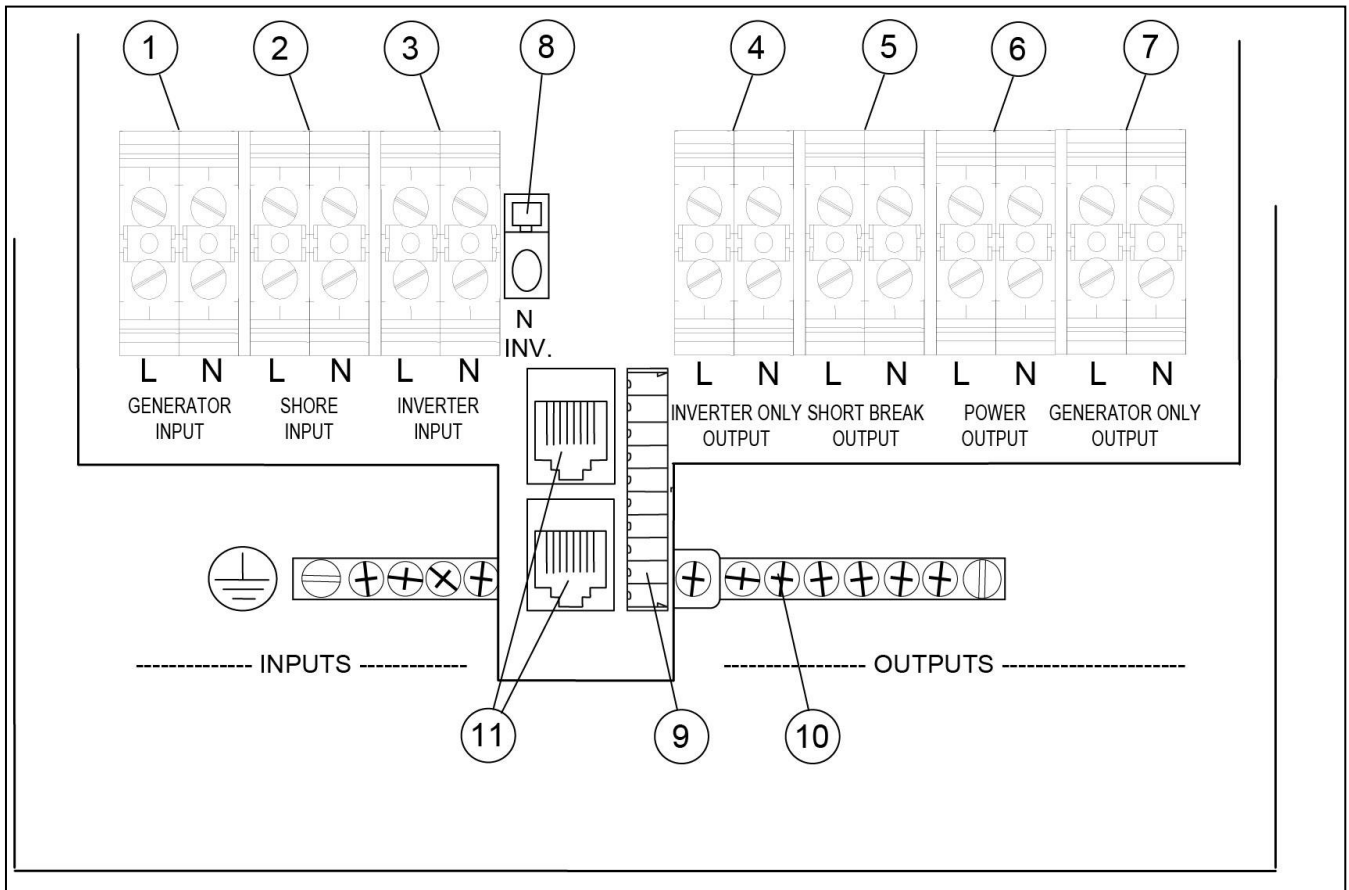

Figure 8
See figure 8 and the table below to connect the AC power sources. Refer to section 3.2 for additional information about the AC inputs.
The output terminals are situated on the right hand side. Connect the load to the terminals as indicated in figure 8 and figure 10.
See figure 8. If a Mastervolt remote control panel is applied, you can fix the wires of the 10x0.5 mm² cable from the remote panel to the remote control connector (ref 9 in figure 11) See also section *INSTALLATION* of the manual of the remote control panel. These signals are galvanically isolated from the mains grid.
See figure 8. The *Mass Systemswitch* can be connected to the *MasterBus* network by means of the two data ports (figure 8, reference 11). See also section 5.3 for details.